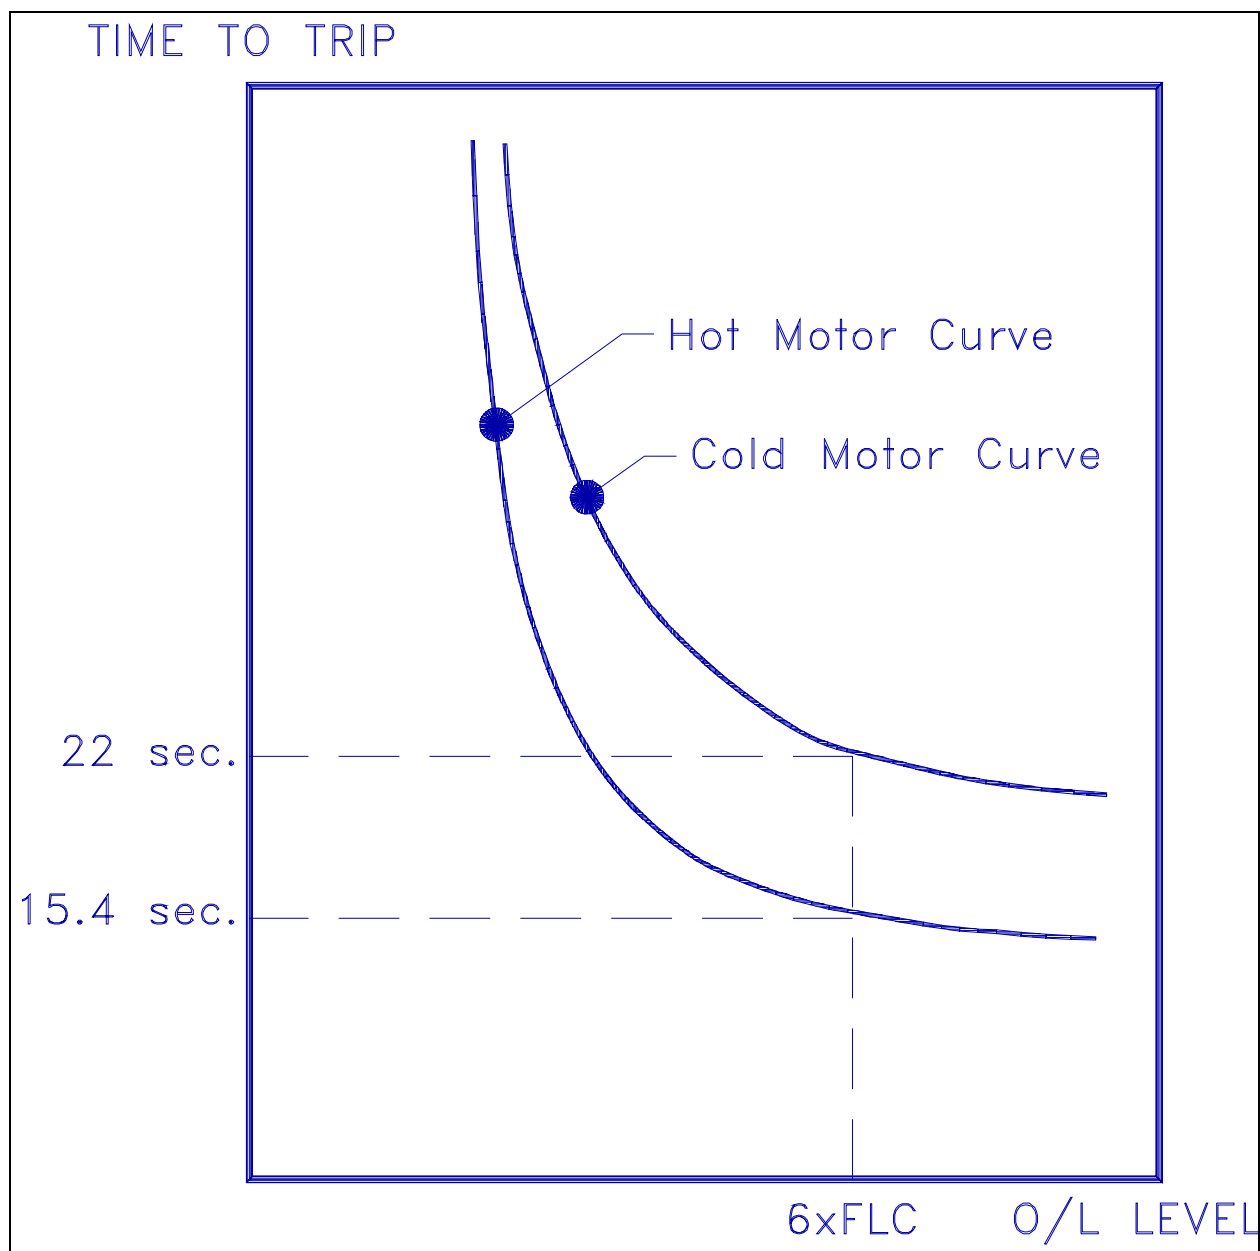

Figure 7.1 Thermal Limit Curves
3. Recommended thermal limit curves are as shown in Figure 7.1.